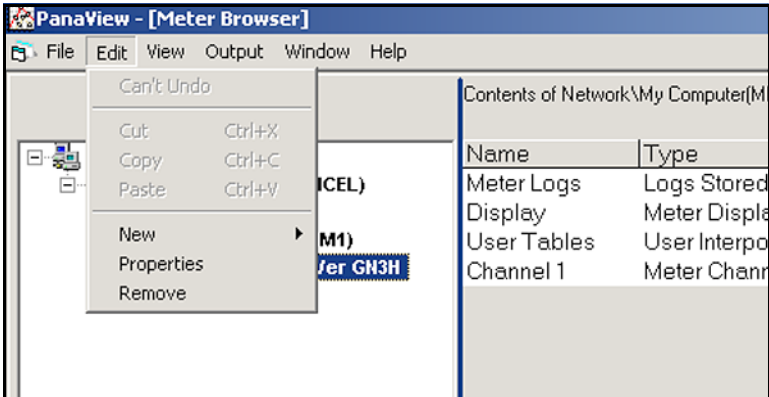
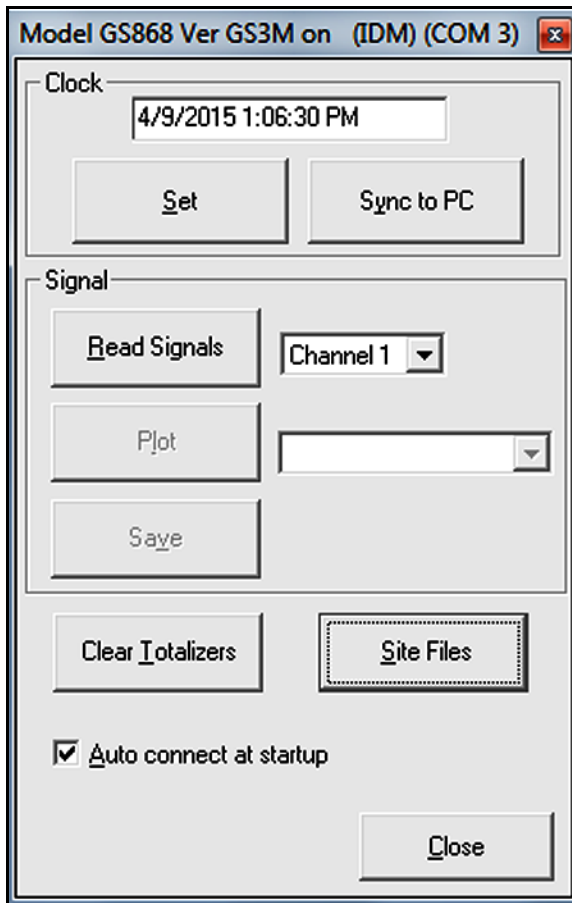
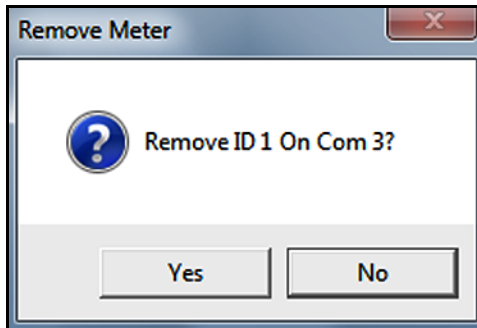

Figure 45: The Edit Menu
Figure 46: Meter Settings
Figure 48: Meter Removal Confirmation
3. With the desired meter highlighted, open the “*Edit*” menu as shown in *Figure 45* below.
1. From the “Edit” menu shown in *Figure 45 on page 62*, click on the “Properties” option to open the dialog box shown in *Figure 46* below.
6. Four of the *Meter Communication Parameters* may be edited by selecting one of the alternate choices in the list boxes shown in *Figure 46* on page 63. See “*Adding the First New Meter*” on page 44, for a discussion of these parameters and the available options.
1. From the “*Edit*” menu shown in *Figure 46 on page 63*, click on the “*Remove*” option to open the dialog box shown in *Figure 48* below.